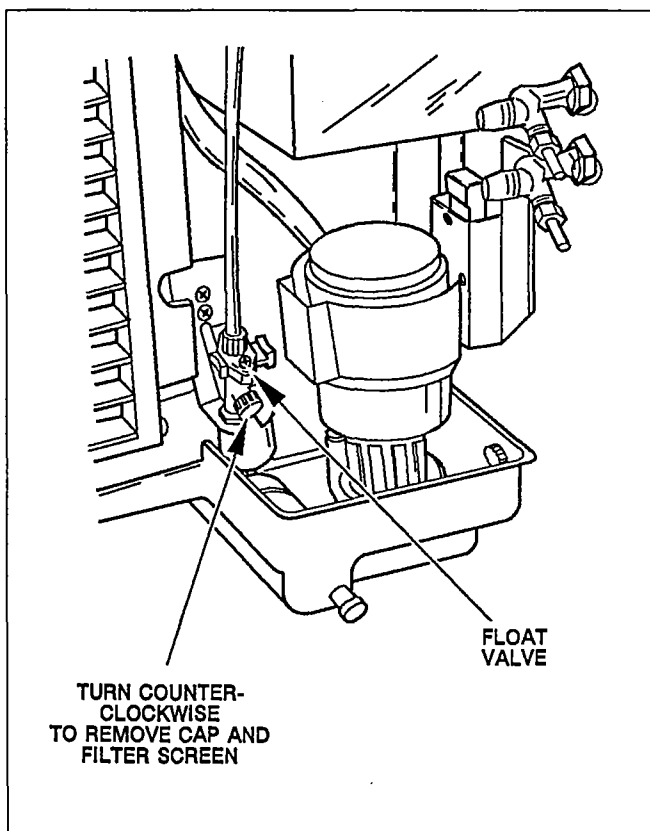

FIGURE 14. CLEANING FLOAT VALVE FILTER SCREEN
- Has filter screen in float valve been cleaned? See Figure 14.